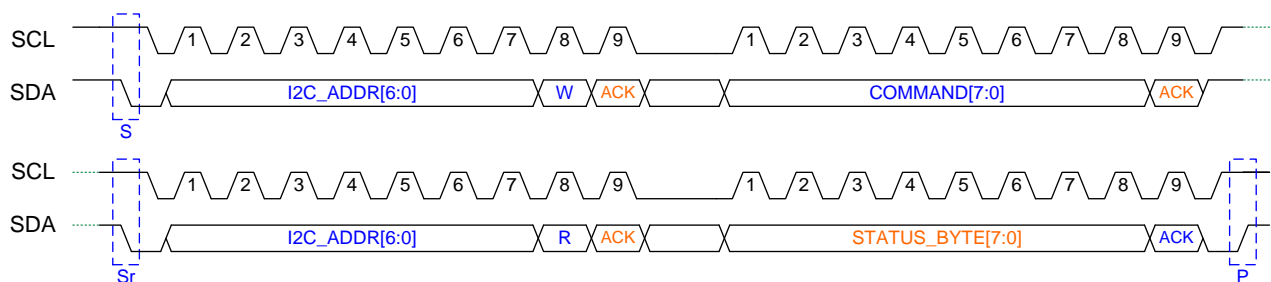

Figure 6: Default I2C communication example with status byte readback
- Sending a Command Byte by the Master, as depicted in Figure 6. The Slave will always acknowledge this, even if it is an unrecognized command. A command such as WR and RR consist of more than 1 byte, which can then be transmitted sequentially over the I²C bus. Referring to Figure 6 the COMMAND byte should then be a sequence of COMMAND byte1, byte2, etc...
- Generating a Stop condition (P) by the master